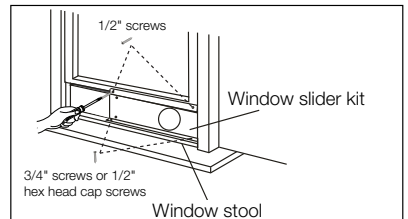

Fig. 15
3. Close the window sash securely against the window slider kit. (Fig. 15)
4. Drive two 1/2" screws to secure the window slider kit to the window sash. (FIG. 15)
5. Secure the window slider kit to the window stool (FIG. 15):